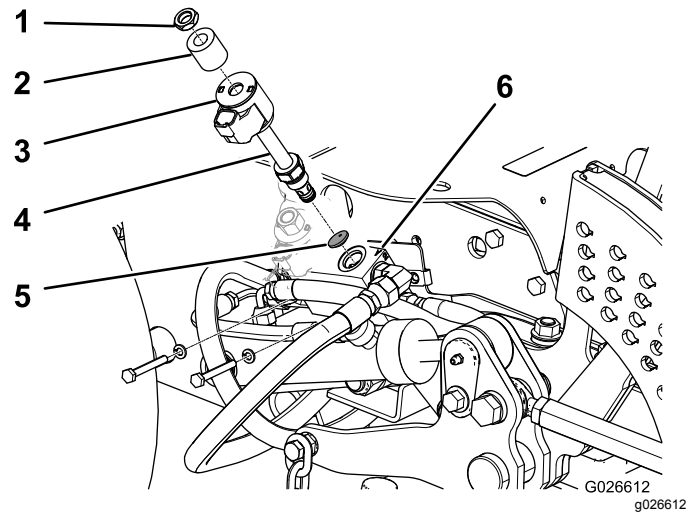

Figure 10
- E. Remove the spacer, the coil, and the solenoid valve from the lift-valve manifold (Figure 10).
- F. Insert the orifice disc into the opening of the manifold, positioning it so that the chamfered end is inward (Figure 10).
- H. Install the coil/spacer assembly onto the solenoid valve (Figure 10).
- I. Secure the coil/spacer assembly to the valve with the nut (Figure 10) and torque the nut to 7 N·m (5 ft-lb).